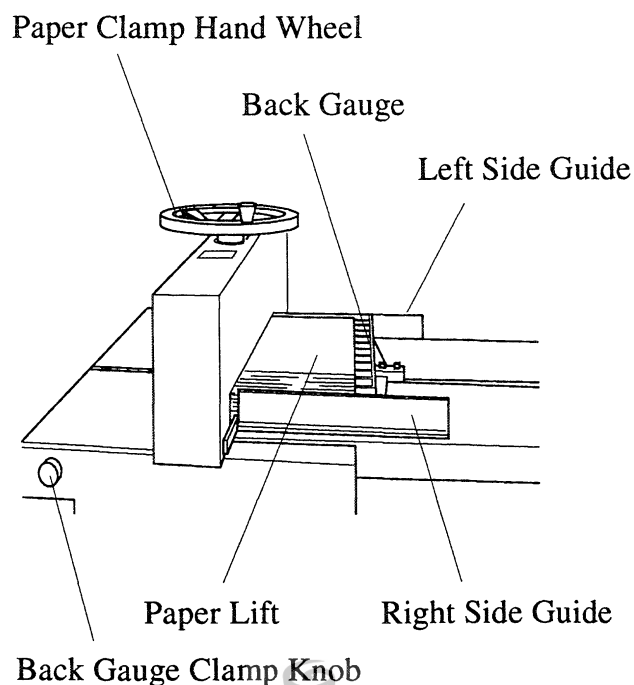

Fig. 2-2
*When cutting same size sheets repeatedly, pull back gauge hand crank toward you to release mechanism and turn back gauge clamp knob (Fig.2-2) clockwise.*
- Neatly jog a lift of paper against back gauge and left side guide. (Fig. 2-2)
- Clamp lift of paper by turning paper clamp hand wheel (Fig.2-2) clockwise until clamp is firmly securing lift of paper.